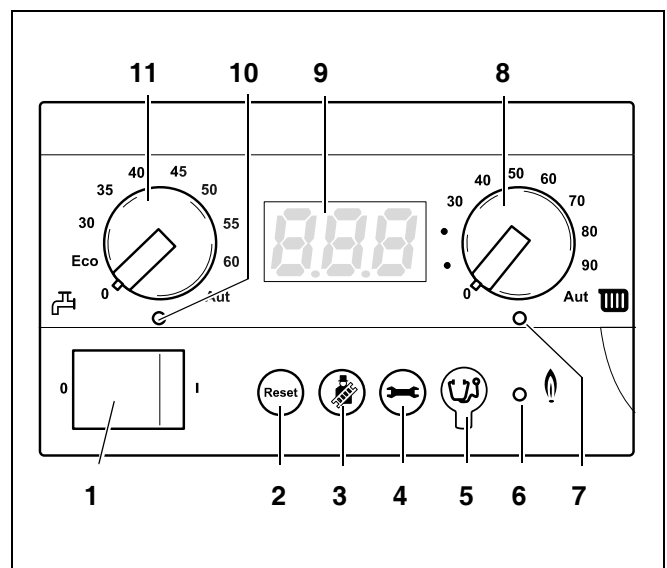

fig. 6 BC10 basic controller
The "Burner" (On/Off) LED (fig. 6, **item 6**) lights up when the burner of the boiler is switched on and it is extinguished when the burner is switched off.
The "Heat demand" LED (fig. 6, **item 7**) lights up when the control system has made a heat demand and it is extinguished when this heat demand is no longer required.
The maximum CH (boiler) flow temperature (fig. 6, **item 8**) is used to set the upper CH (boiler) flow temperature limit. The unit is °C.
The heating system status and values can be read out from the display (fig. 6, **item 9**). If a fault occurs the display will immediately show the accompanying fault code. The fault code display will flash if a locking fault is detected.
The DHW temperature dial (fig. 6, **item 11**) is used to select the required temperature of the hot water in the hot water cylinder. The unit is °C.
The "DHW mode" LED (fig. 6, **item 10**) lights up when a DHW request has occurred and it is extinguished when this DHW request is no longer required.